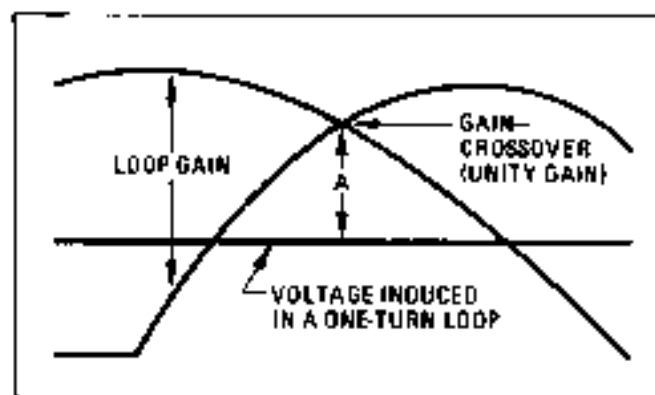

Figure 5-10. Spectrum Analyzer Display of Phase Locked Loop Gain
6. Press the single sweep key. Check that the gain-crossover frequency is  $20 \pm 2$  kHz. If the gain-crossover frequency is not correct, A3A9A4R20 must be changed to set the correct frequency; otherwise, this adjustment is complete. See Figure 5-10.